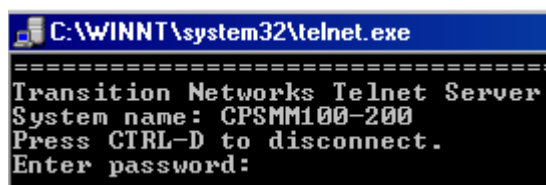

Figure 45: Password Prompt
1.	At the command line type: Telnet nnn.nnn.nnn.nnn (IP address) brings up the password prompt, as shown in Figure 45.